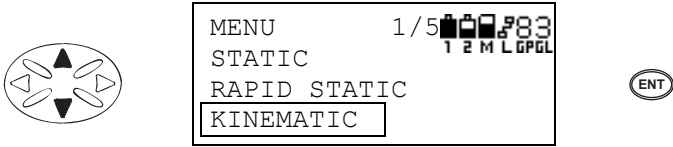

Figure 3-45. Kinematic Observation Menu Selection
2. Press the **up/down cursor key** to select Kinematic, then press the **ENT** key (Figure 3-45). If observation is currently under way, a confirmation message will appear, then press **F2** (YES).